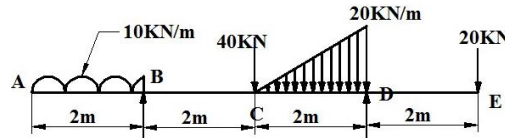

Figure 23
12. Draw shear force and bending moment diagram for overhanging beam as show in **Figure 23** and locate the point of contra flexure.